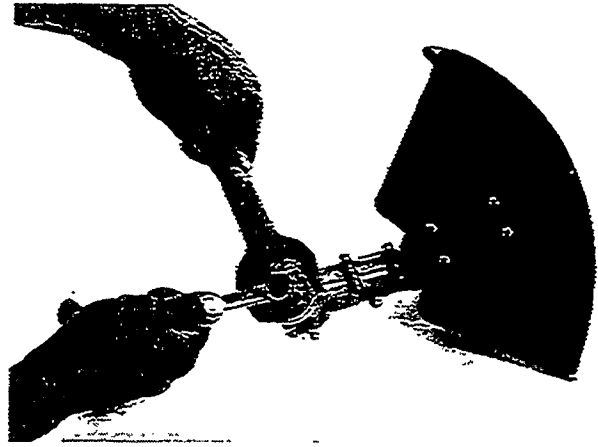

Figure 13
- Using the tools shown (Figure 13), remove the bolt (left hand thread), star washer, and flat washer at the bottom of the gearcase.